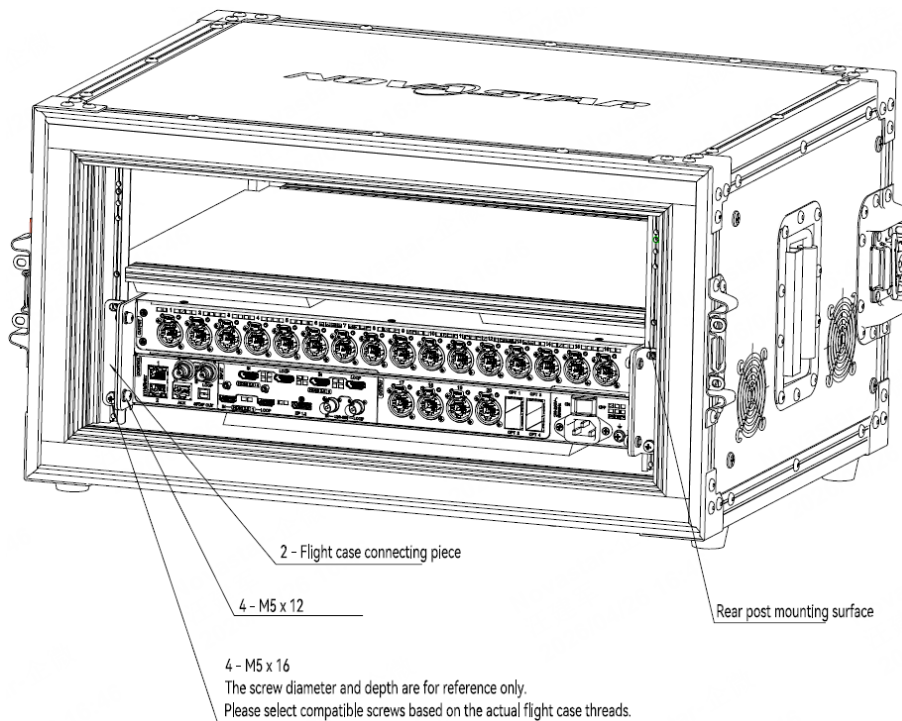

Figure 3
3. Use 4 screws to secure the flight case connecting piece to the rear post of the flight case, as shown in Figure 3. The screw type should be selected based on the actual flight case.
4. Use 4 screws to fasten the flight case connecting piece and the rear mounting brackets together, as shown in Figure 3. The screw type should be selected based on the actual flight case.